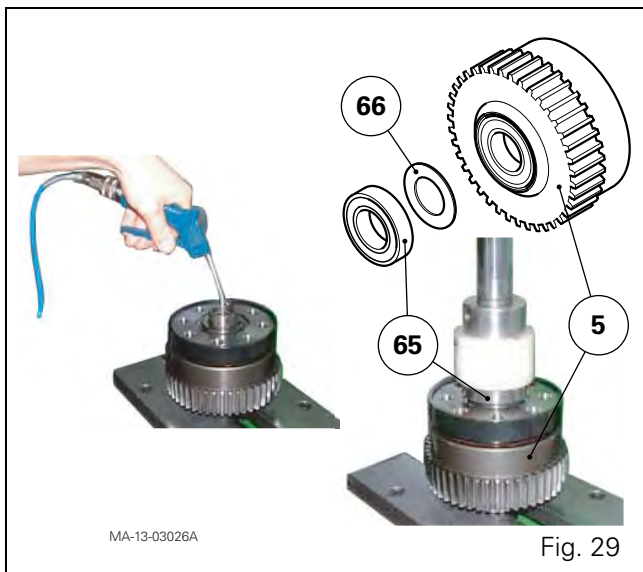
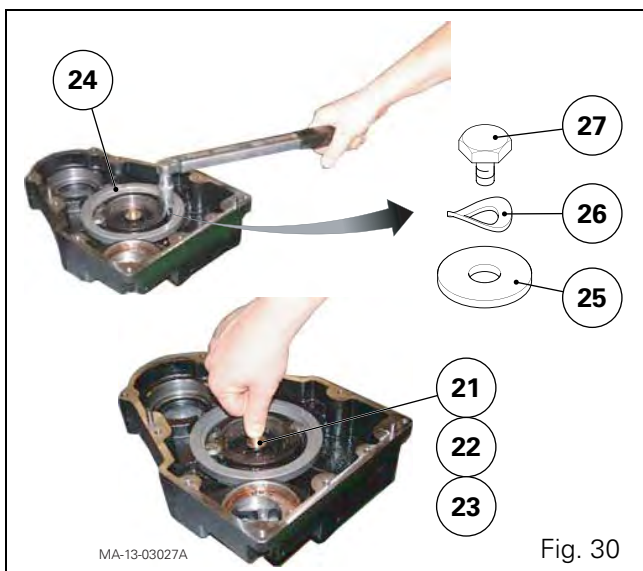

Fig. 29
Fig. 30
57. Check the clutch operation with compressed air (Fig. 29).
58. Fit bearings (65) and (47) on the clutch (5) (Fig. 29) using a press.
IMPORTANT: Do not forget the washer (66) below the bearing (65) (Fig. 29).
59. Place the dust seals (18) and (16) on each half-housing.
60. Check the presence of three ball bearings (28) below the ring (24). The ring should turn freely (Fig. 30).
61. Check the fitting for the bolts (27) that retain the ring (24). The bolts are fitted with a spring washer (28) and a large washer (25). Tighten the bolts to 5 Nm (Fig. 30).
62. Fit the bronze collar (21) with a new seal (22) and the spring (23) in its position on the housing. Check that it slides properly in the housing (Fig. 30).